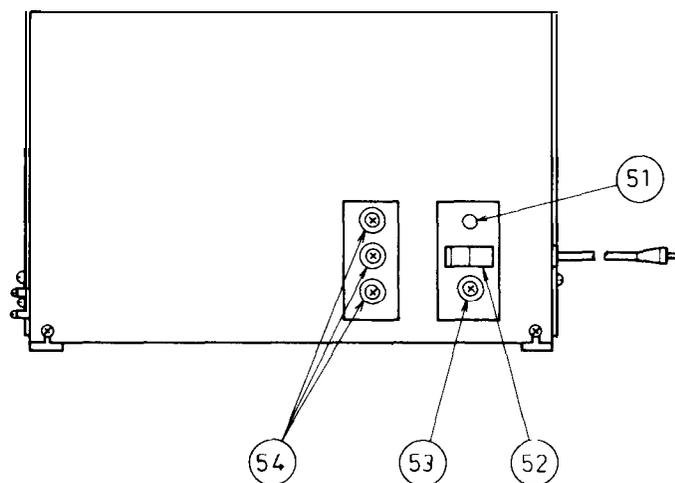

FIG. 5 - REMOTE EXTENSION AND TIE LINE INTERFACE UNIT
1.3.2.4 REMOTE EXTENSION AND TIE LINE INTERFACE UNIT (RTIU) (Figure 5)